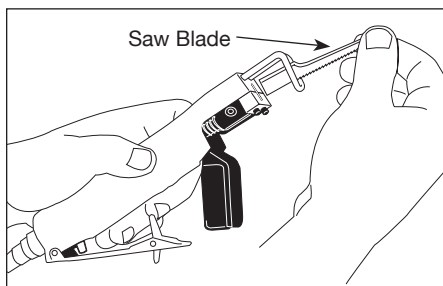

Figure 6
4. Carefully pull blade out of saw body as shown in Figure 6.